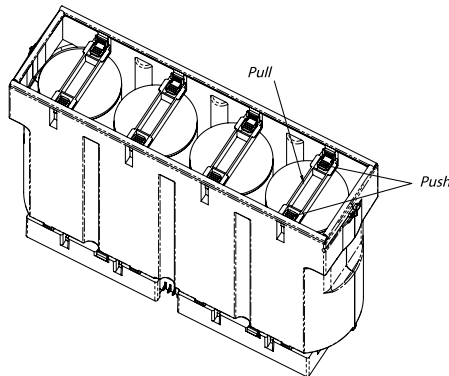

Figure 22. Lifting HEPA filter clamps
4. Release the clamps of HEPA filters to be replaced, as shown in Figure 22;